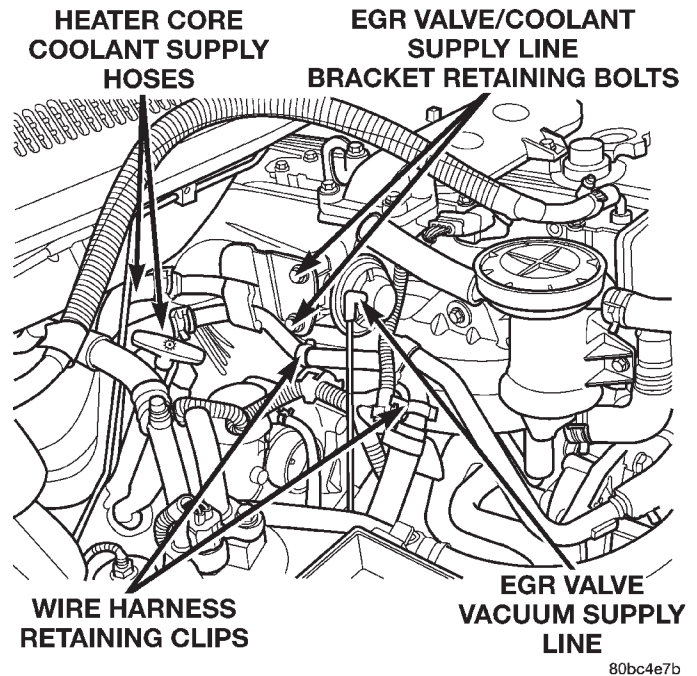
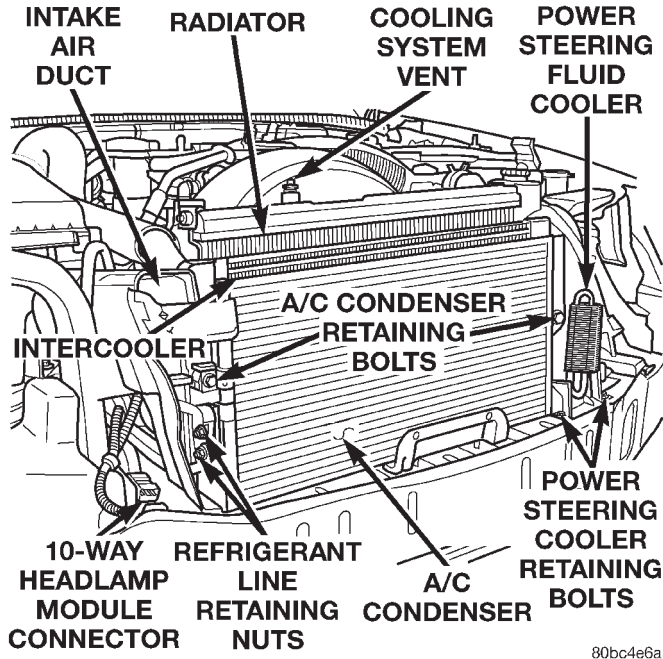

Fig. 31 Engine Compartment View - Rightside
Fig. 32 Cooling Module Assembly
(46) Install the heater core coolant supply hoses on the engine (Fig. 31).
(47) Install the EGR valve vacuum supply line on the valve (Fig. 31).
(48) Install the coolant recovery hose on the water manifold.
(49) Install the coolant reservoir supply hose on the engine.
(50) Install the cooling module assembly and retaining bolts (Fig. 32). Torque the bolts to 41 N·m (30 ft. lbs.).
(51) Install the fan shroud and both cooling fans as an assembly on the vehicle.
(52) Install the suction and discharge refrigerant lines on the condenser assembly (Fig. 32). Torque the retaining nuts to 28 N·m (21 ft. lbs.). Be certain the sealing gaskets are well lubricated and free of tears.
(53) Position the power steering cooler and install the retaining bolts (Fig. 32).
(54) Charge the refrigerant system. Refer to Group 24, Heating and Air Conditioning for the procedure.
- (55) Connect the electric radiator cooling fan electrical connector.
- (56) Install the intake air duct on the vehicle (Fig. 32).
- (57) Install the upper radiator hose on the vehicle.
- (58) Install the radiator overflow hose on the radiator